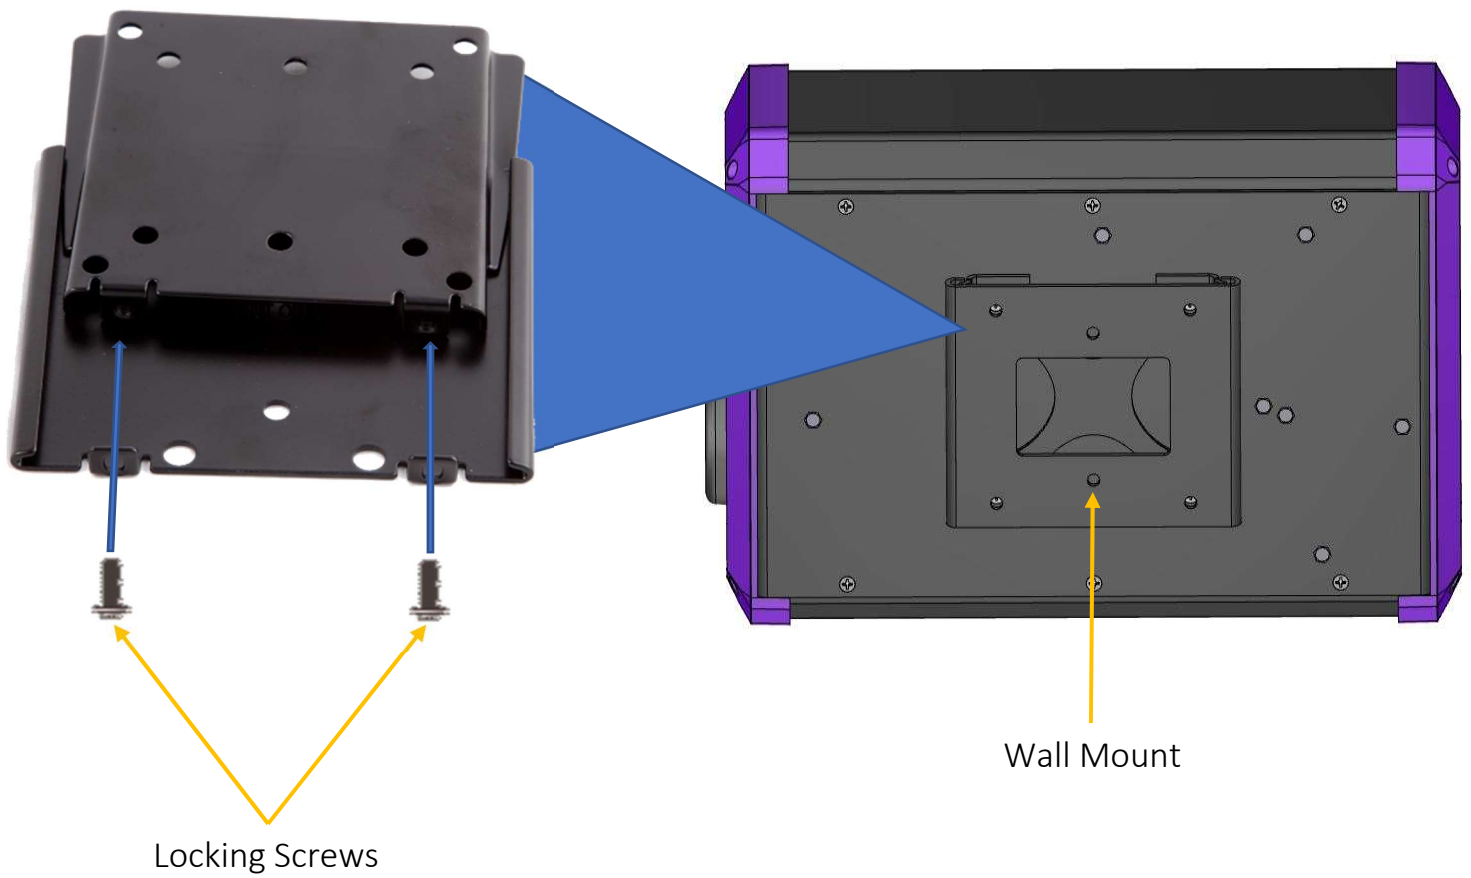

Fig 1.
2. Remove the wall mount section of the Vesa mount that came preinstalled on the back of the CID 75k. This is done by removing the two Phillips screws located on the bottom of the bracket as seen in Fig 1.
11 Installation Procedure Fig 1